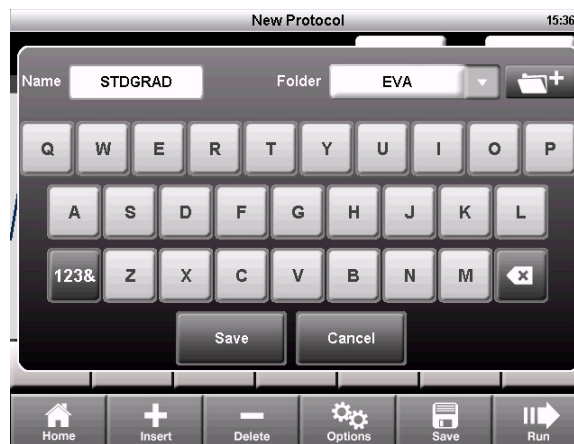

Figure 14. The protocol is saved as **STDGRAD** in the **EVA** folder.
2. Name the protocol by typing a name up to eight characters using the alphanumeric keypad (Figure 14)